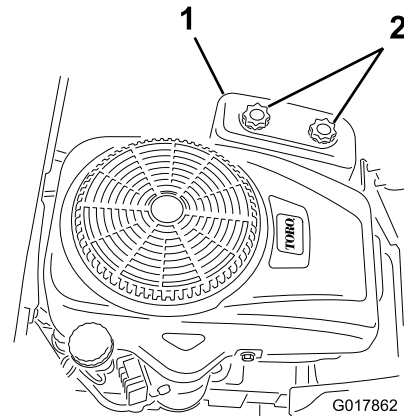

Figure 26
- Remove the air cleaner cover by unscrewing the 2 knobs (Figure 26).
3. Install the air cleaner cover and tighten the two knobs (Figure 26).